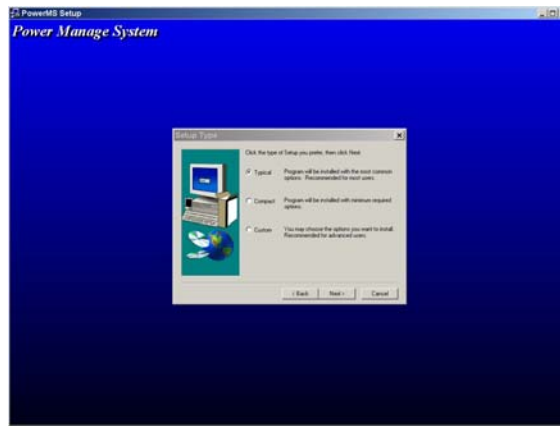

Fig. 3-5 The Installation Window
- 3.1.5 In Fig. 3-5, the installation type is selected. Normally, most users will select "TYPICAL". Click the mouse on "NEXT" to continue.